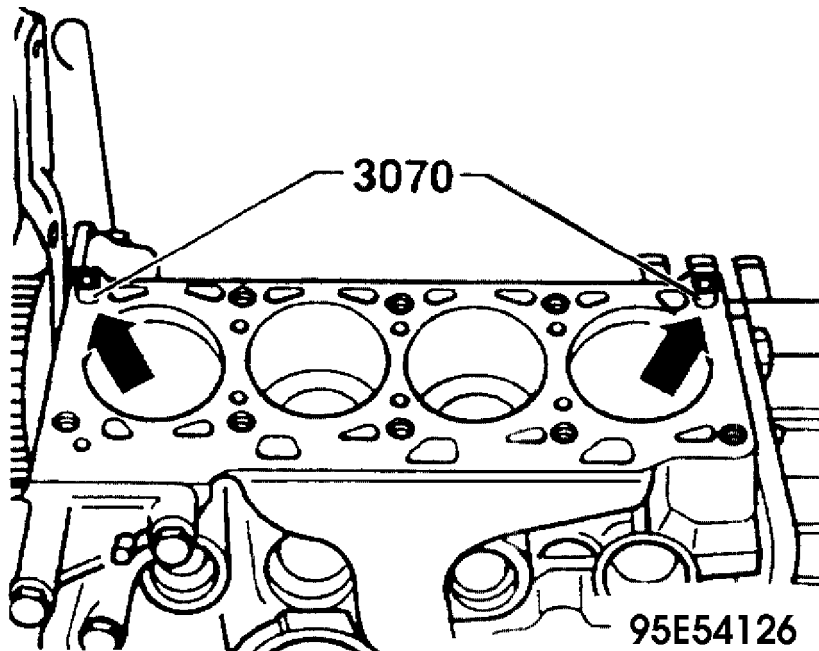

Fig. 5: Guide Pin Locations
- To align cylinder head, install guide pins from 3070 into holes for cylinder head bolts -8- and -10-. See Fig. 5.